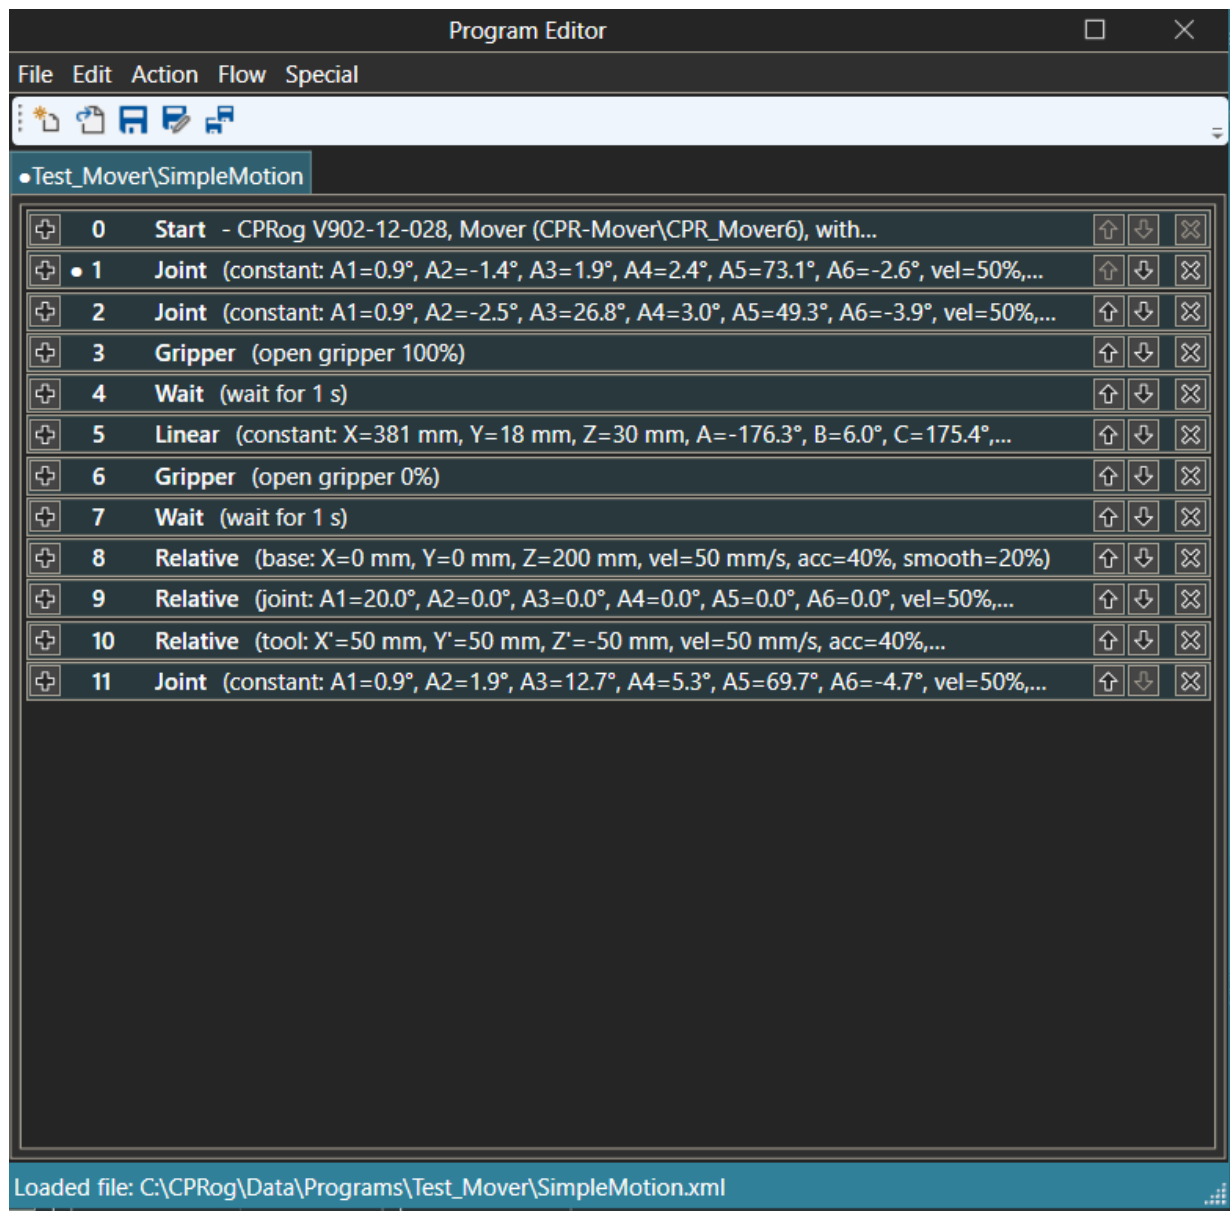

Figure 22: SimpleMotion.xml
You have been provided with a sample program ("SimpleMotion.xml") which demonstrates some different types of motion of the robot. Program files are defined in the Extensible Markup Language (XML) which provides a flexible set of keywords and tags to describe motion predicates. The Program Editor provides a simple interface to write these files so there is no direct need to understand their structure. The sample program is shown in Figure 22. To load this click "Load" and select the file. Then click "Edit" to bring up the programme editor.
1. Linear Motion – Move in a line between the current point and the new desired position and pose; move joints as appropriate using inbuilt inverse kinematics). This is specified in the XML code as shown in Instruction 5 in Figure 22. In this case there are 14 extra components which define the motion: